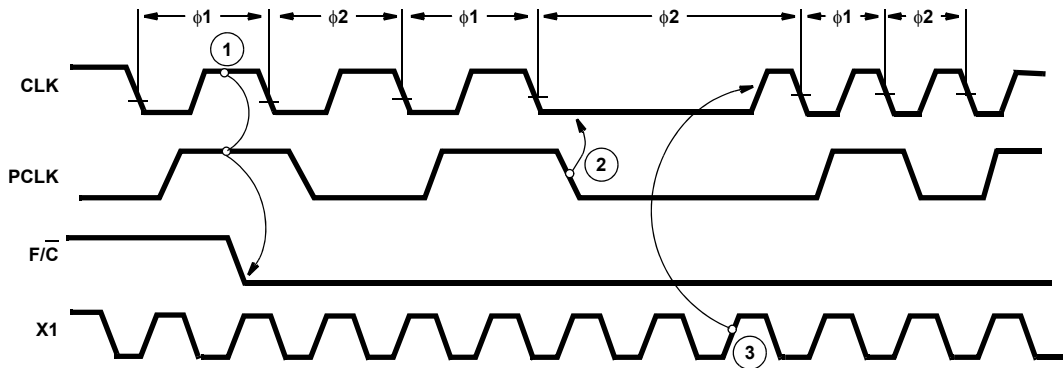

FIGURE 1A.  $F/\overline{C}$  SWITCHED FROM HIGH (USING EFI INPUT) TO LOW (USING THE CRYSTAL INPUT X1)
- A)  $F/\overline{C}$  switched from high (using EFI input) to low (using the crystal input X1 - see Figure 1A).